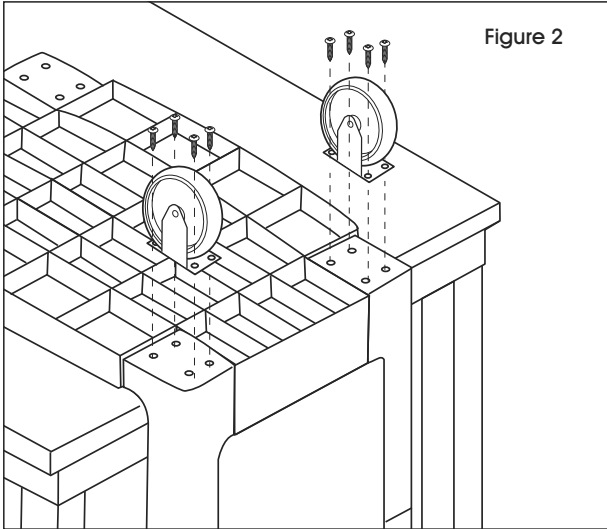

Figure 2
3. Position a rigid caster over the bolt holes of each support. (See Figure 2)